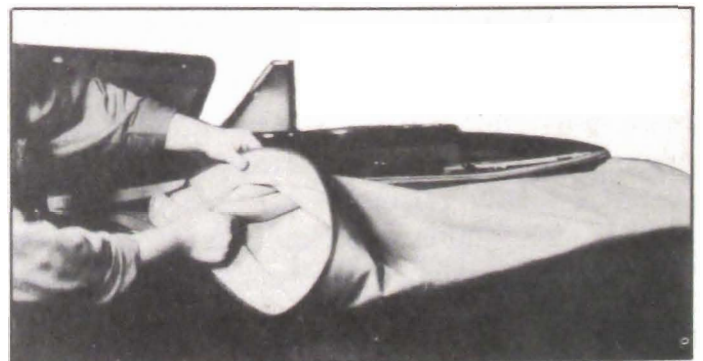

Figure 13-52—Pulling Out Top Padding
4. Pull out top padding on both sides as shown in figure 13-52 and tuck it down into the top compartment. NOTE: *Top material and padding must not be pinched by the operating arms of top.*